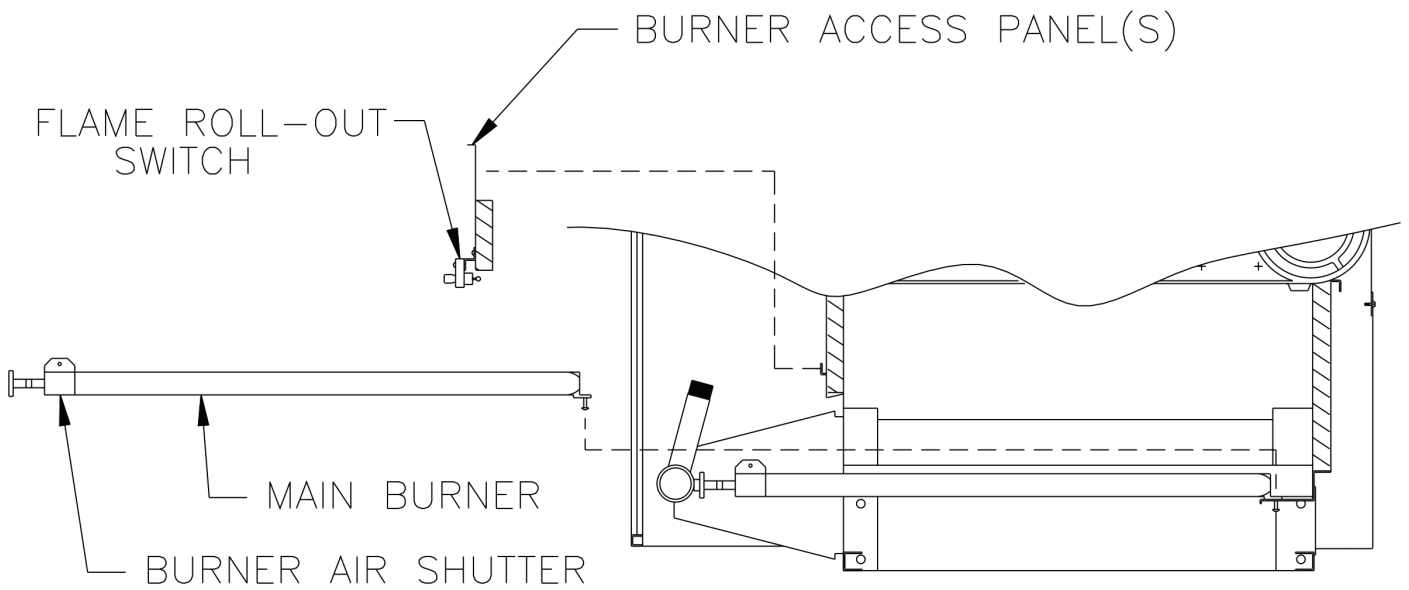

Figure 7: Burner/Burner Access Panel Installation
K. Install Pilot/Main Burner Assembly. See Figure 7. Assembly is located in Combination Boiler Parts and Control Carton. Verify assembly is properly located on support bracket in Base Rear Panel, seated on Main Burner Orifice, and secured with hitch pin clip.
L. Adjust Burner Air Shutters on all Burners. See Figure 7. Distance between front edge of Burner Air Shutter and burner mounting ring should be approximately 11/16". To adjust this distance, loosen screw at top of air shutter and slide into correct position. Then tighten screw. (Replace Burner Access Panel(s) and Front Door on Packaged Boilers.)